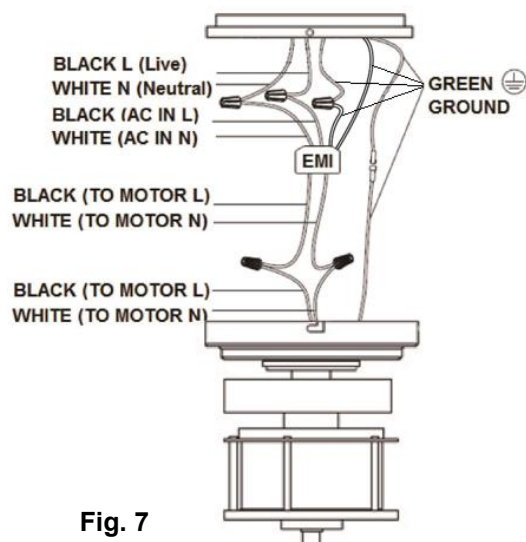

Fig. 7
Complete the electrical wiring using the diagram below (Figure. 7).
1. Connect the household live supply wire (black) to EMI filter input wire (black, AC IN L) as shown in **Fig. 7**.